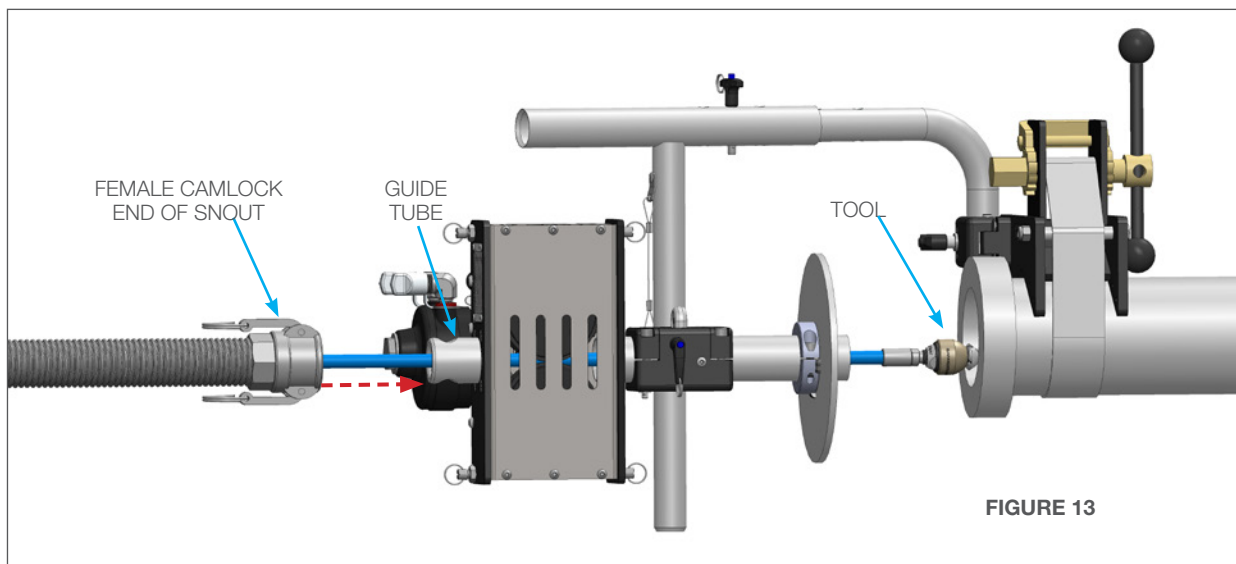

FIGURE 13
5. Lock the Female Camlock End of the Snout onto the Guide Tube of the AUTOBOX® ABX-PRO TRACTOR. **(Figure 13)**
6. Attach the desired tool onto the male hose end (Stoneage® BT25 Beetle® shown for reference). SEE THE APPLICABLE TOOL MANUAL FOR SPECIFIC INSTALLATION INSTRUCTIONS. **(Figure 13)**